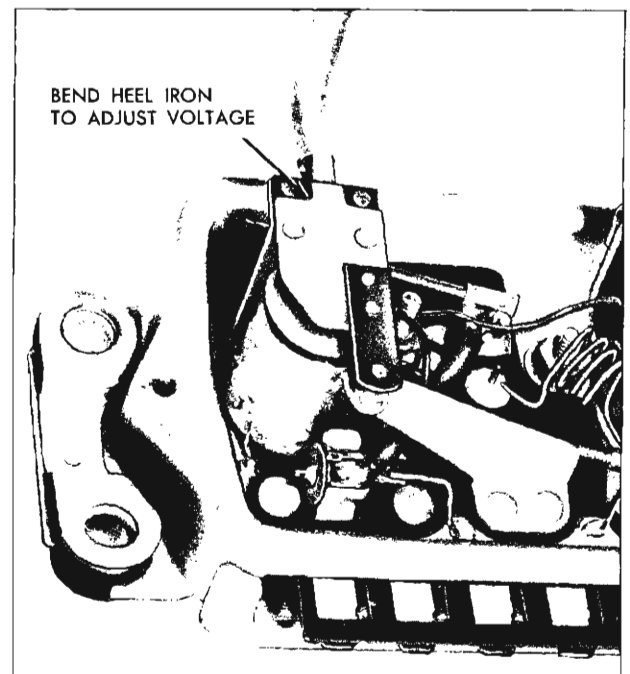

Fig. 19—Adjusting Field Relay Unit Closing Voltage
4. Slowly decrease resistance and note closing voltage of the relay. Adjust by bending heel iron in the manner illustrated in Figure 19.